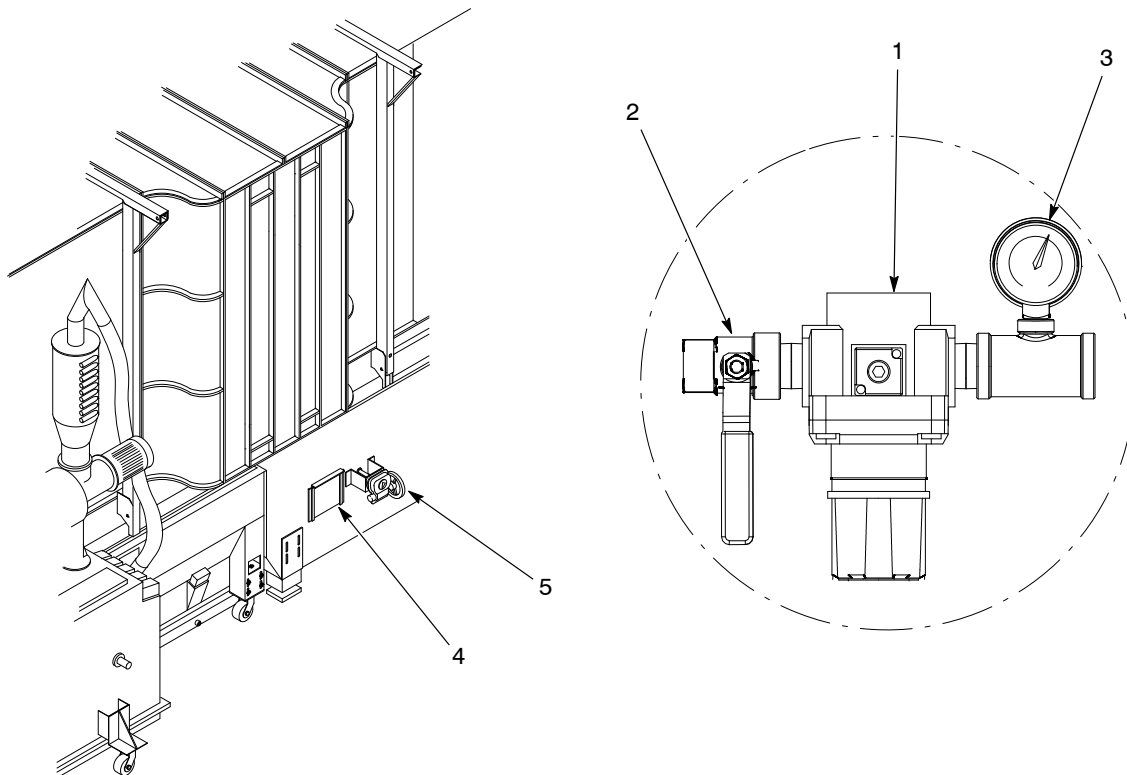

Figure 3-3 Pulse Air and Fan Damper Controls
8. See Figure 3-3. Adjust the pulse-valve air pressure and volume.
- a. Open the slide gate (4) on the side of the fan section to access the pulse-valve air controls. Set the pulse valve regulator (1) to 345–413 kPa (50–60 psi). The valves will start pulsing. Watch the pressure gauge (3). The pressure will drop when the valves open.
- b. Adjust the gate valve (2) so the air pressure returns to 345–413 kPa (50–60 psi) just before the next pulse. This adjustment will prevent the powder pumps from being deprived of air during pulses.
9. Adjust the fan damper hand wheel (5) (Horizon 400 only) to obtain the correct air flow through the enclosure. Refer to *Fan Damper Adjustment* on page 3-6.
See Figure 3-3. Use the fan damper hand wheel (5) on the front of the fan section to adjust the fan damper. To open the damper and increase the flow, turn the wheel counterclockwise. To close the damper and decrease the flow, turn the wheel clockwise. Six full turns of the wheel move the damper from fully open to fully closed.